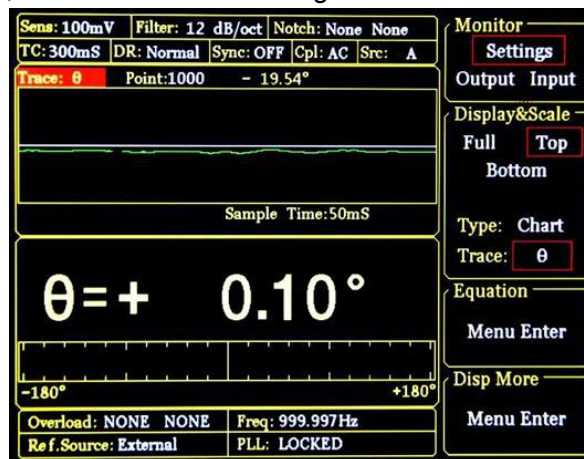

Fig.94 Display \langle θ \rangle in XY Chart
First, press [soft key 2] and choose \langle Top \rangle . Second, press [soft key 3] to highlight [Type] and then choose \langle Chart \rangle though the knob. Third, press [soft key 3] to highlight \langle Trace \rangle and then choose \langle θ \rangle . After these settings, the result is shown in Fig.94.